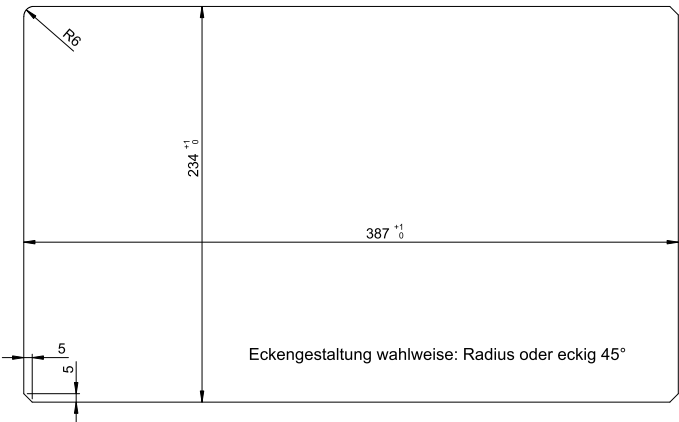

Fig. 5
1. Cut an aperture (see Fig. 5) in the control cabinet door or switch panel.
2. Unscrew the lock nuts ❹ from the threaded pins and completely detach the bezel ❶.
3. Lay the supplied cord seal ❸ (gasket) in the groove around the screen ❷.
4. Carefully slide the SPECTOR*control* III into the aperture from the front, taking care to insert the cord seal ❸ (gasket) fully in the groove.
5. Next, slide the bezel ❶ over the threaded pins from behind.
6. Firmly and evenly screw the unit and bezel ❶ together using the lock nuts ❹ (only until the screen ❷ is in contact with the front panel all the way round).